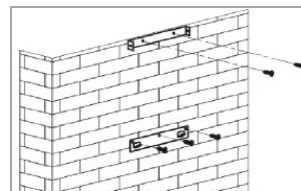

Fig. 3
- Hang up the hood body. Check the secure hold and the horizontal position (**Fig. 3**).